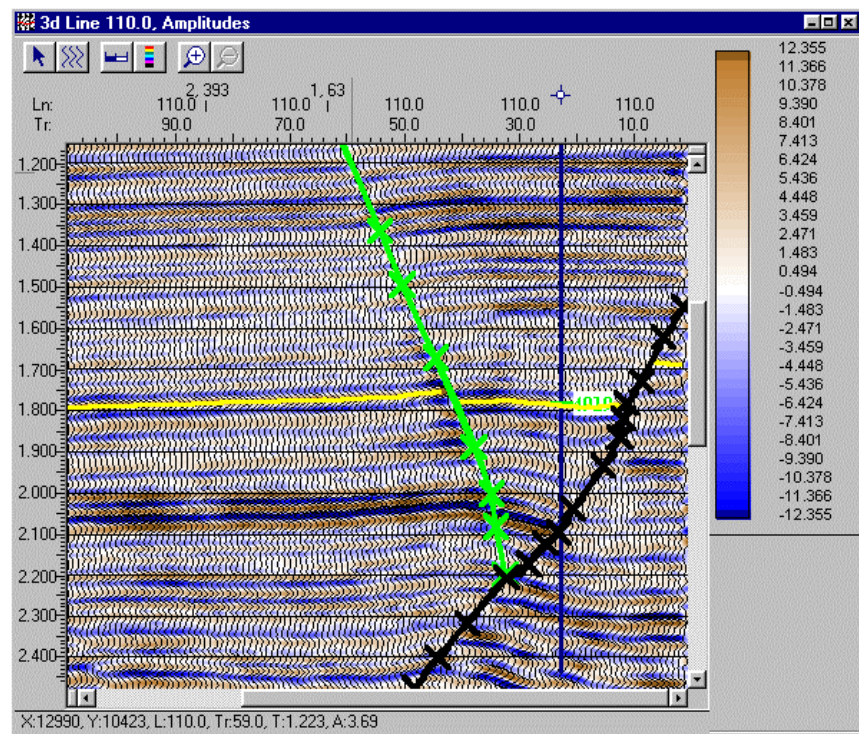

Figure 8: Horizon B46 tied to well on Line 110.
26. As mentioned earlier, the seismic data will be tied to a well using the B46 formation top. **Display line 110**. *Scroll until the well is visible and the B46 top is displayed around 1.8 seconds.* If the B46 top is not displayed, left click on *Wells and Wellbore Display Options*, Left click on *Plot Formation Tops* and OK. The B46 should be displayed and correlated along a peak (Figure 8).